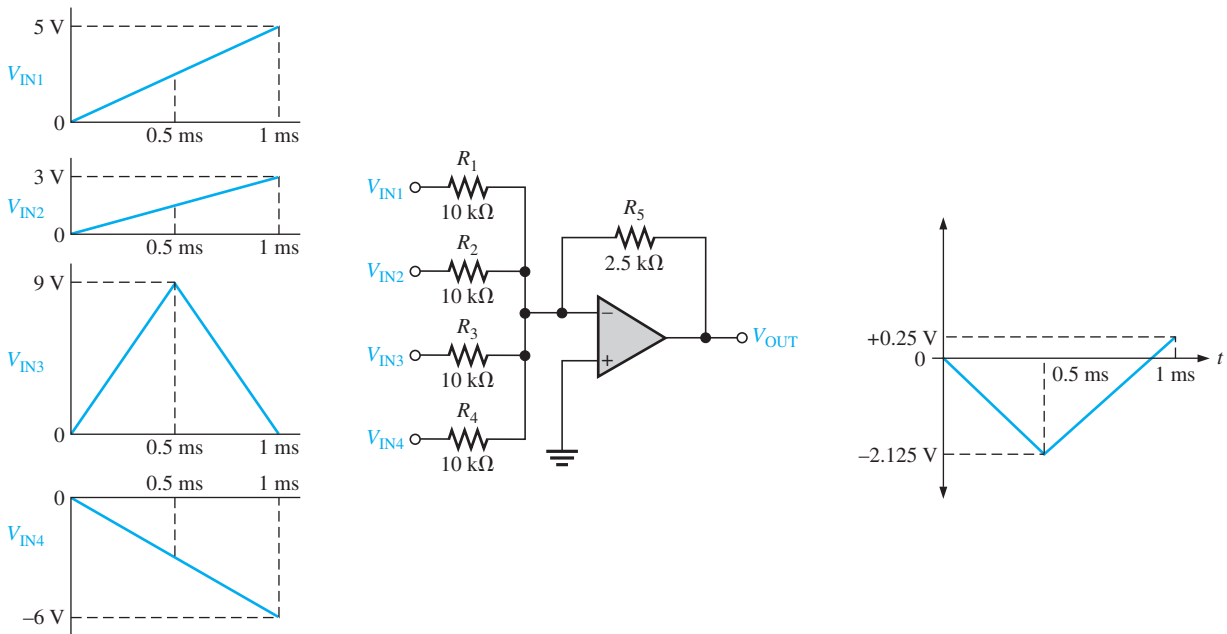

FIGURE 8–59
25. The given ramp voltages are applied to the op-amp circuit in Figure 8–59. Is the given output correct? If it isn't, what is the problem?